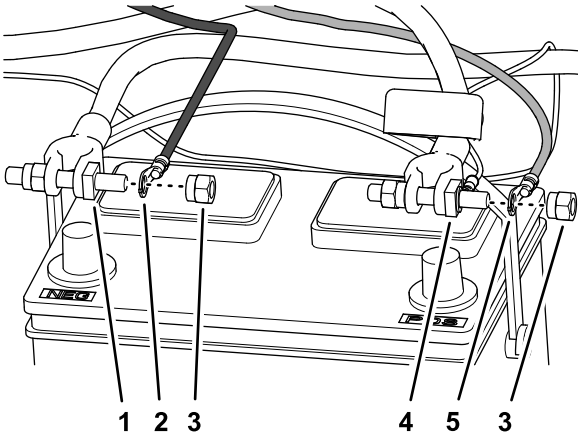

Figure 13
2. Assemble the ring terminal of the power harness for the wire labeled BATTERY (-) onto the battery clamp bolt for the negative battery cable with a battery-clamp nut (Figure 13).
3. Assemble the ring terminal of the power harness for the wire labeled BATTERY (+) onto the battery clamp bolt for the positive battery cable with a battery-clamp nut (Figure 13).